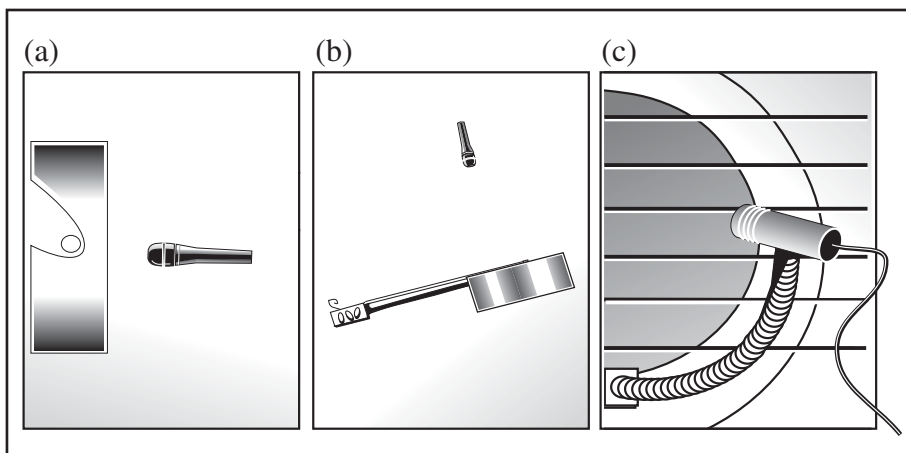

FIGURE 6.1
- **What works for this may not work for that.** Final placement depends on the style of music. A jazz acoustic guitar would not be miked the way a pop acoustic guitar would be. A country picking guitar would use a different placement than a love song. Slow songs would be miked differently from fast songs. All situations are unique. Figure 6.1 shows: